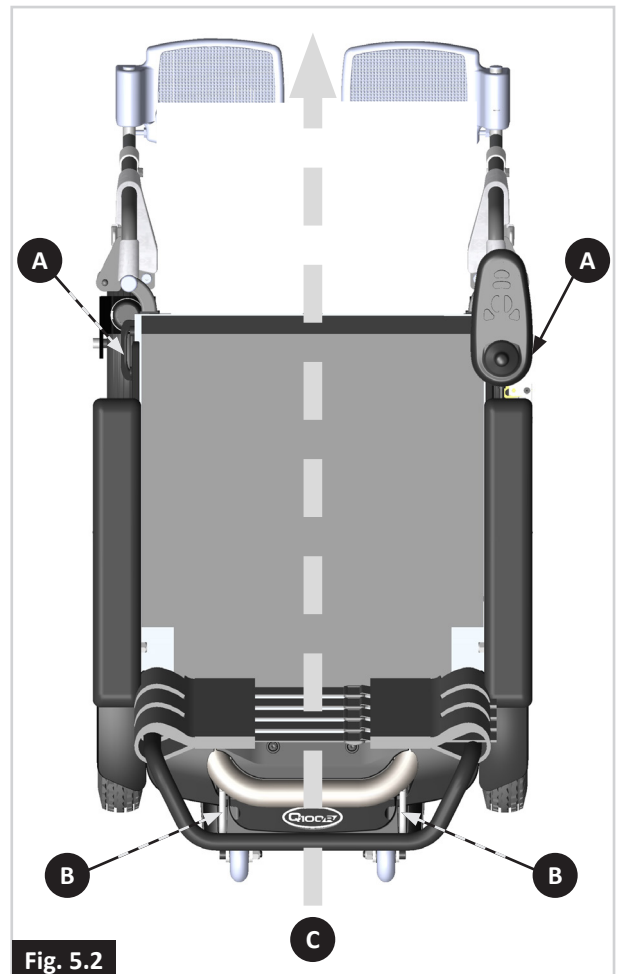

Fig. 5.2
- Secured with a 4-point strap restraint system (2 in the front, 2 in the back, Fig.5.2), that conforms to:
- The wheelchair can only be secured by using the tie-down points on the wheelchair's frame (Fig. 5.2 - 5.8).